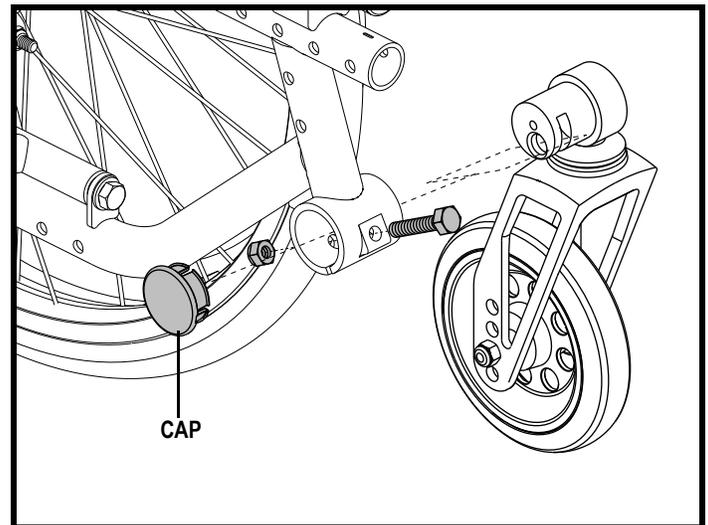

Figure 36. Bolt-on Caster Removal
2. Remove the hardware that attaches the caster wheel to the frame of your wheelchair. See **figure 36**.